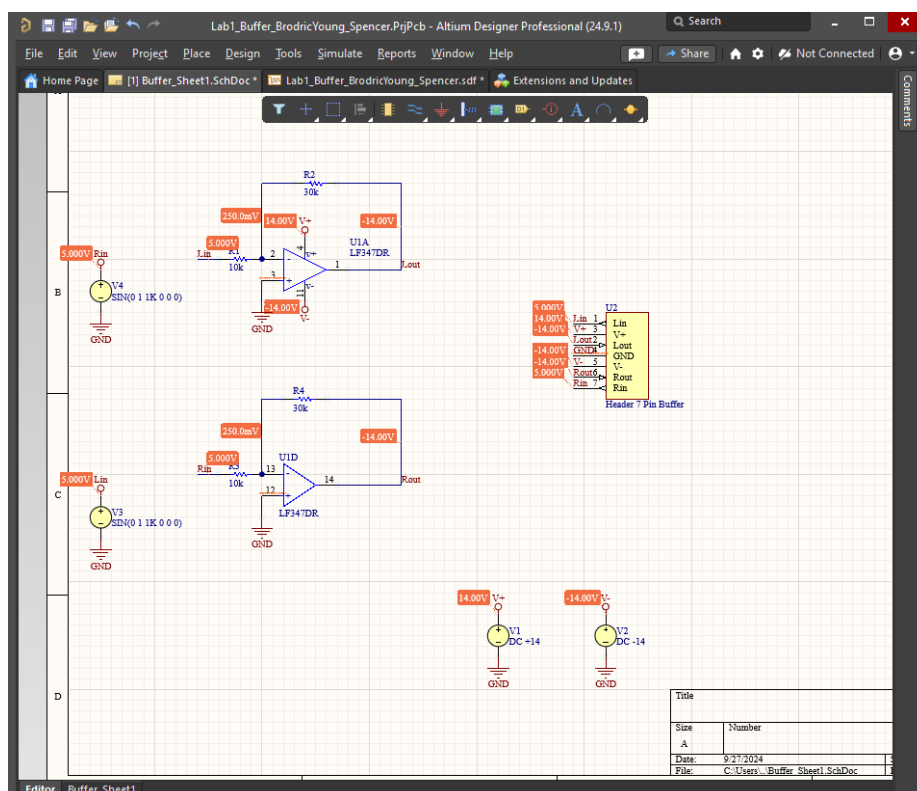

Figure 4, Voltage Value Labels
5. After this we also went back to the schematic and turned on the voltage value labels that showed the values of voltages throughout the schematic. This can be seen below as “Figure 4, Voltage Value Labels”.